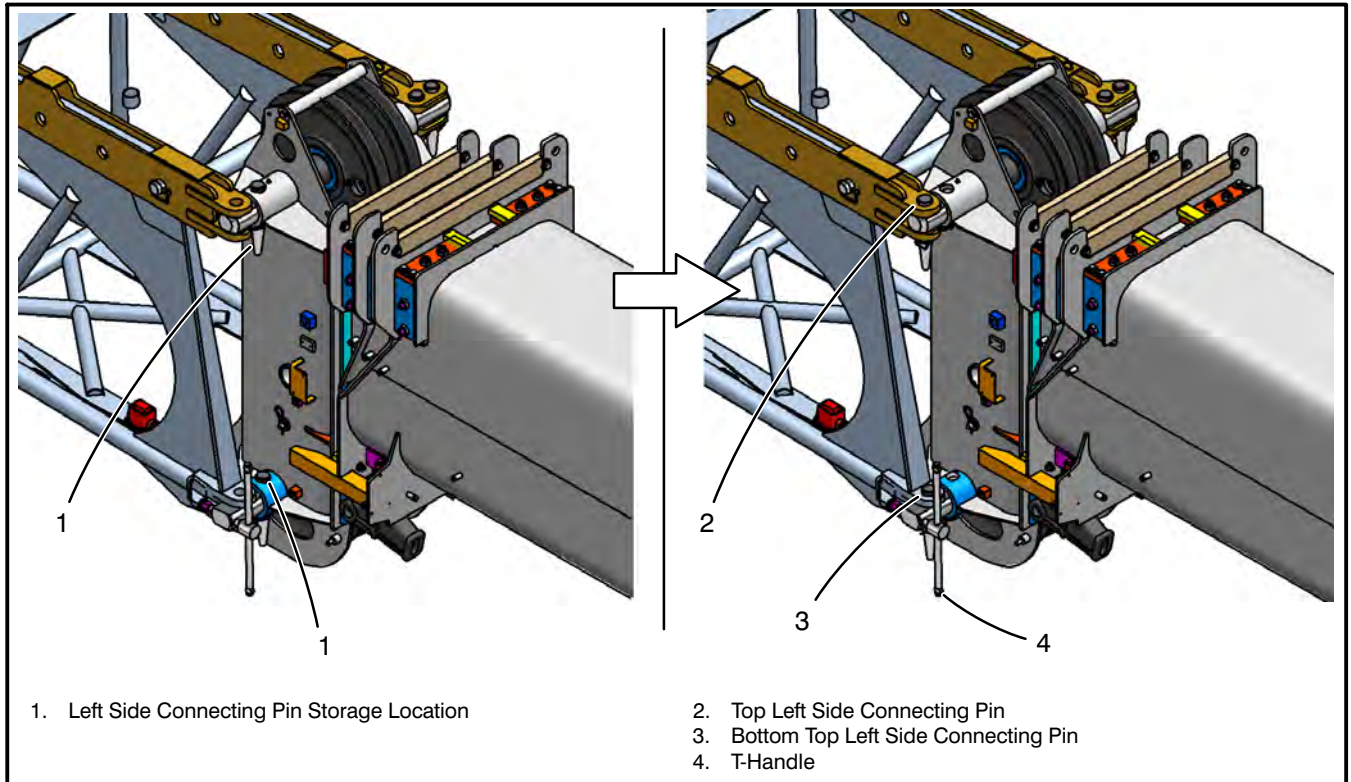

Figure 4-45
17. Remove the two fly connecting pins from the storage location (1) on the boom head machinery cross shafts on the left side of the boom. Refer to Figure 4-45. Install one pin through the top fly lug (2) and the top boom head cross shaft on the left side of the boom. Turn the t-handle (4) to push and align the bottom left fly lug and the bottom boom head cross shaft. Install the bottom left fly connecting pin (3). (Install the pins with the head on top and the keeper on the bottom.) Install the pin keepers. Back off the t-handle until at least a 1/2 in (1.3cm) clearance from the fly lug is obtained.